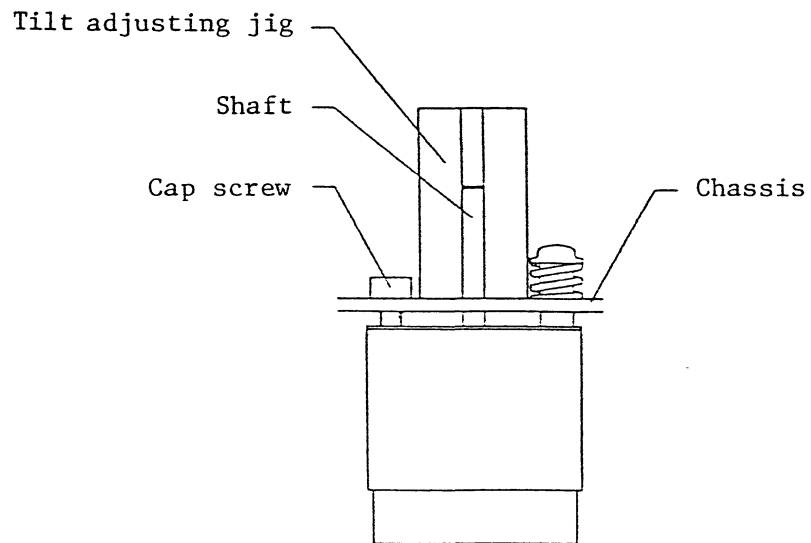

Fig.446 Tilt adjustment
- (j) Turn the screw until the bottom face of the tilt adjusting jig is in close contact with the chassis (Fig. 446).